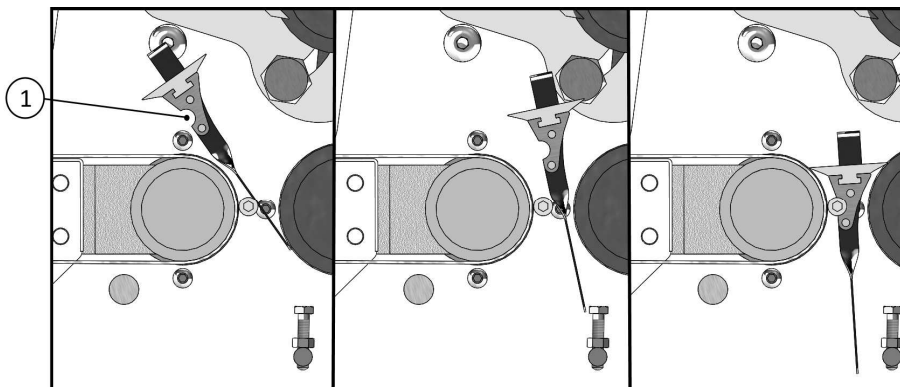

Figure 20
To carry out this operation, refer to the following procedure and to Figure 20:
- To reposition the scrapers, correctly insert them between the pins fastened to the shoulders and the lower roller: the recess (ref. 1 Figure 20) must be on the opposite side of the cylinder